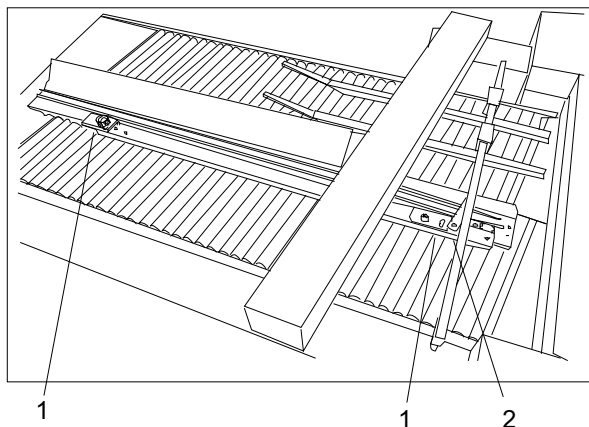

Fig. 82 Loosening the screws
1. Use a 10 mm flat wrench to loosen the two screws (Fig. 82/1) by means of which the alignment rail is attached from the underside of the longitudinal cross bar. Remove the screws.
2. Use a 7 mm flat wrench to loosen the screws (Fig. 82/2) by means of which the hold-down slide is attached from the underside of the longitudinal cross bar. Remove the screws.